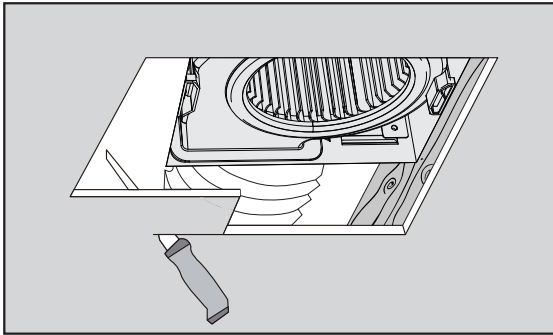

Fig 20
1. Enlarge ceiling opening (if necessary) to 7.25" (parallel to duct direction) by 7.63" (perpendicular to duct direction). (Fig 20)